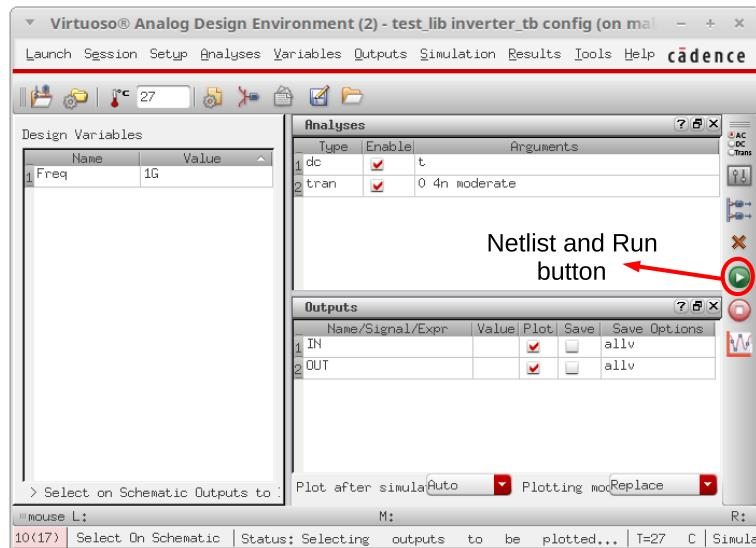

Figure 29: ADE window after setting the analysis and the outputs
6. The ADE window now looks like Fig. 29.
8. To run the simulation simply click on the Netlist and Run button (see Fig. 29).